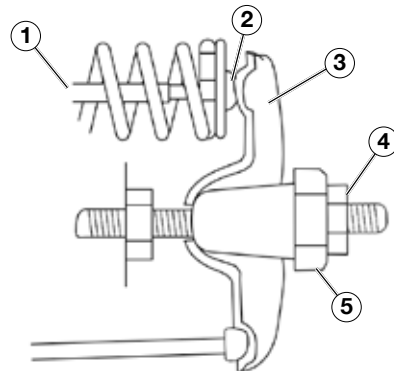

Figure 22
5. Insert a feeler gauge between the rocker arm and the push rod and check for clearance (see Figure 22). See Table 2 for valve lash specifications